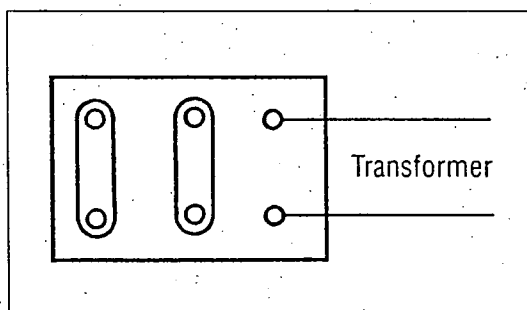

Fig. 2
- connect the windings in series (Fig. 2)